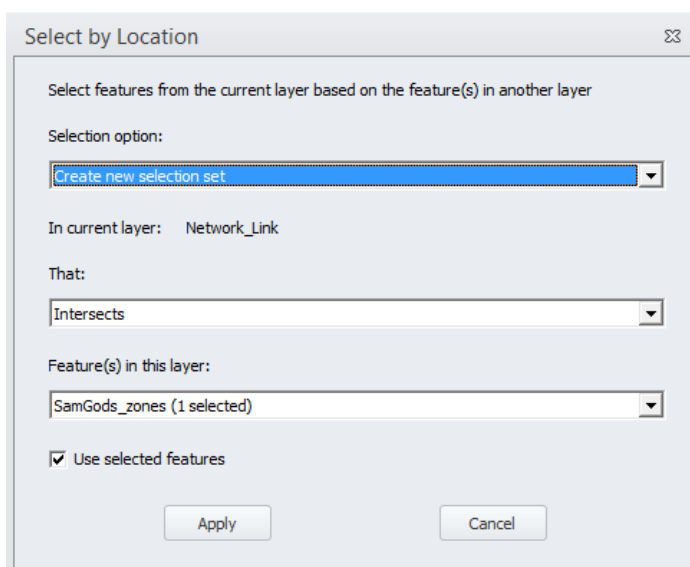

Figure 62 The Select by Location tool
- 4) In the Select by Location window, set the values indicated in Figure 62.